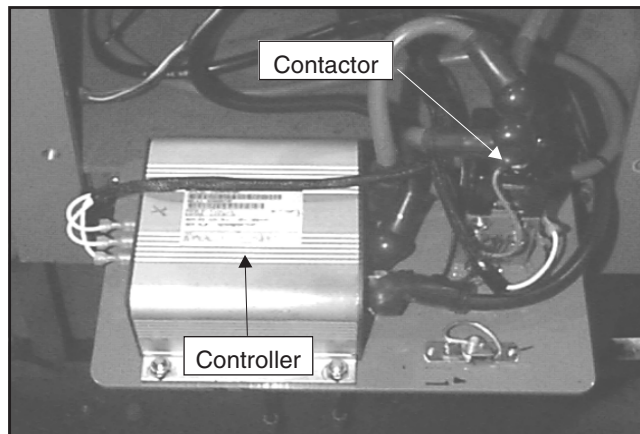

Figure 8.2—Motor Controller and Contactor
1. From the lower control, activate platform lift while watching and listening to see that the contactor closes (Figure 8.2). If yes, go to C, Pump Motor. If no, go to 2.